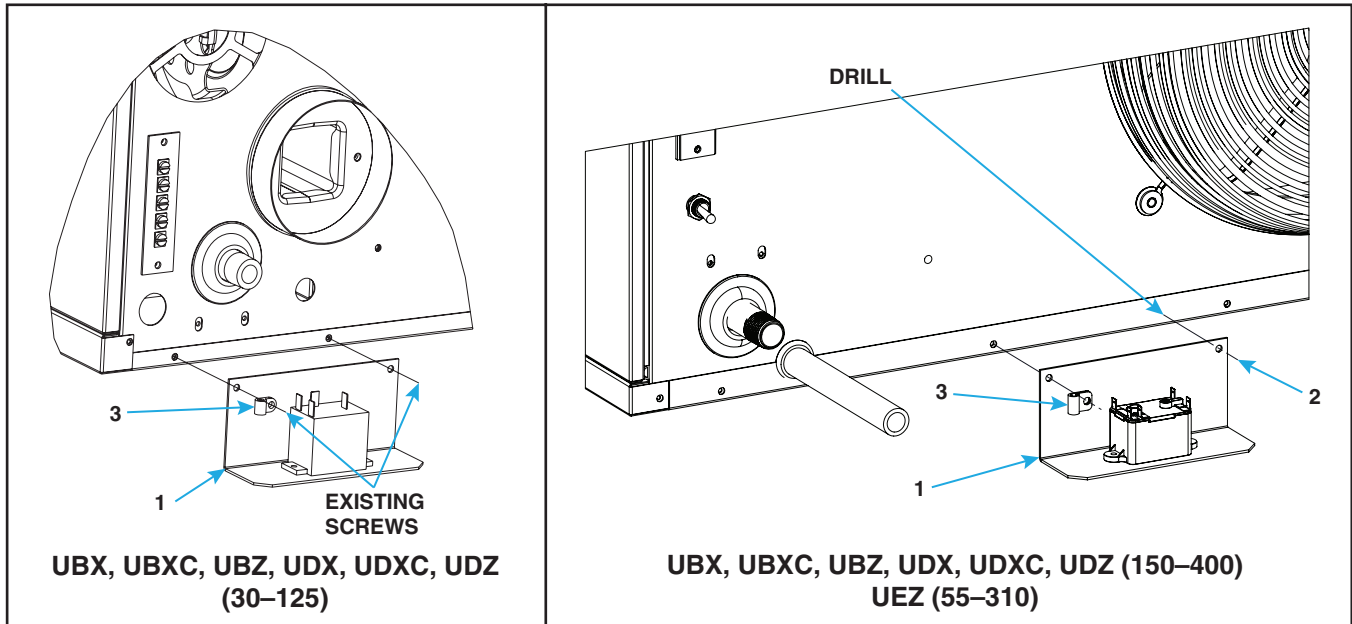

Figure 6. Relay Installation—Models UBX, UBXC, UBZ, UDX, UDXC, UDZ, and UEZ (Refer to Table 2)
- d. For gas-fired unit heater models UBX, UBXC, UBZ, UDX, UDXC, UDZ, and UEZ (see Figure 6):
- (1) At rear of heater, remove and save screws from edge of cabinet bottom.
- (2) For model UBX, UBXC, UBZ, UDX, UDXC, and UDZ unit sizes 150–400 and all UEZ models, align relay assembly (1) as shown and use bracket as template to drill hole in edge of cabinet bottom as shown.
- (3) Secure relay assembly (1) and cable clamp (3) as shown using existing screws for model UBX, UBXC, UBZ, UDX, UDXC, and UDZ unit sizes 30–125 or one existing screw and one screw (2) from kit for model UBX, UBXC, UBZ, UDX, UDXC, and UDZ unit sizes 150–400 and all UEZ models.